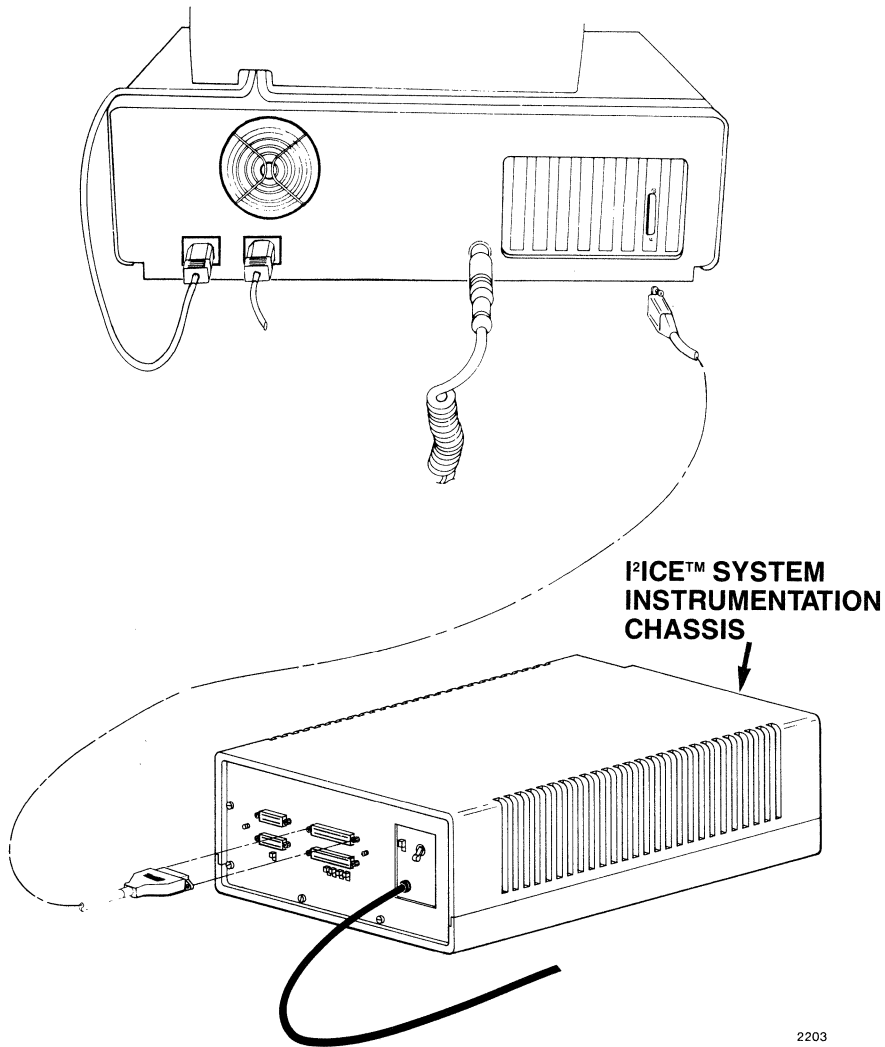

Figure C-9 Cabling Between the I²ICE™-to-PC Interface Board and the I²ICE™ System Instrumentation Chassis
The I²ICE system cables consist of a single host-chassis cable (supplied with the host interface board) and up to three inter-chassis cable sets, depending on the number of instrumentation chassis in your I²ICE system. Refer to Figures C-9 and C-10 when installing the system cables.
1. Plug the D-ribbon end of the host-chassis cable into the slot marked ICE-LINK IN on the I²ICE system back panel (Figure C-9). Tighten the two captive screws.